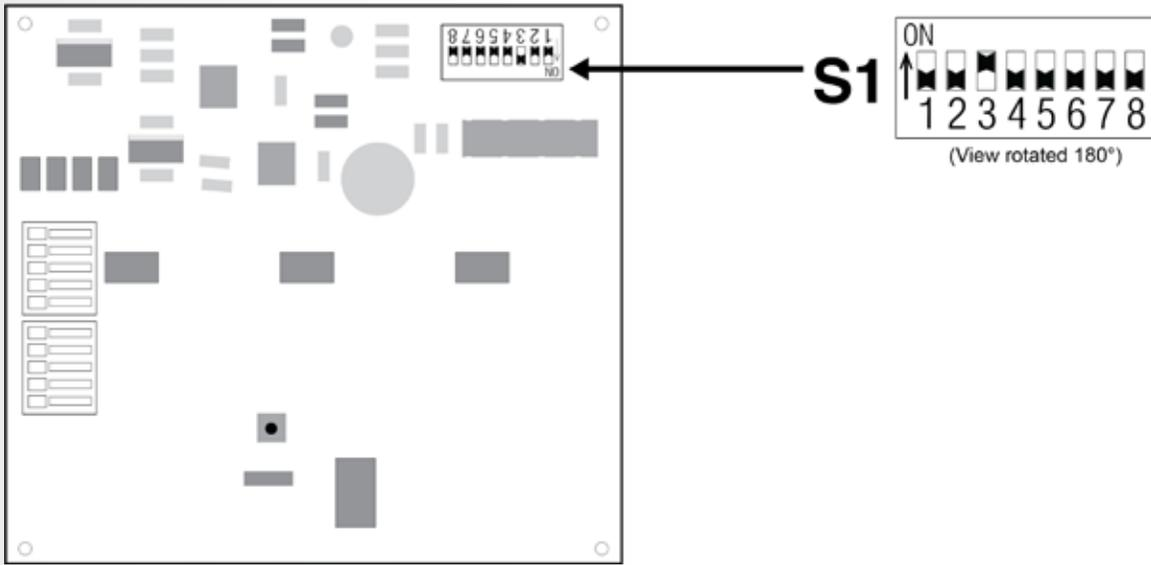

Figure 11. Mounting the Remote Display Unit
- Remove the front panel and attached circuit board from the display unit enclosure, and drill a 3/8 inch (9.5mm) hole centered through the back of the enclosure as shown in Figure 11.
1. Remove the four Phillips head (crosspoint) screws from positions 1 - 4 on the bottom of the counter-top bracket (Figure 11).
2. Hold the bracket against the wall at the desired mounting location, and mark the wall through the holes numbered 5 and 6 (Figure 11).